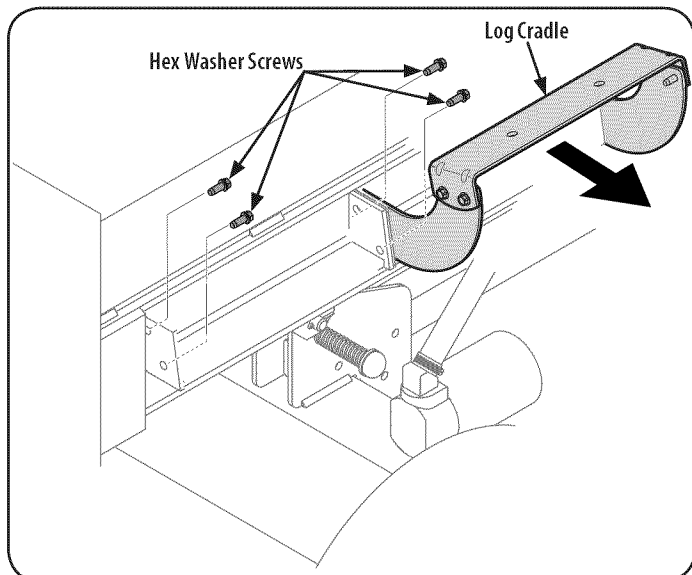

Figure 6
17. Disconnect the log cradle from the beam on the side of the control valve by removing the two hex washer screws that secure it to the beam and the two hex washer screws in the beam flange. The cradle is off-set for shipping purposes. See Figure 6.